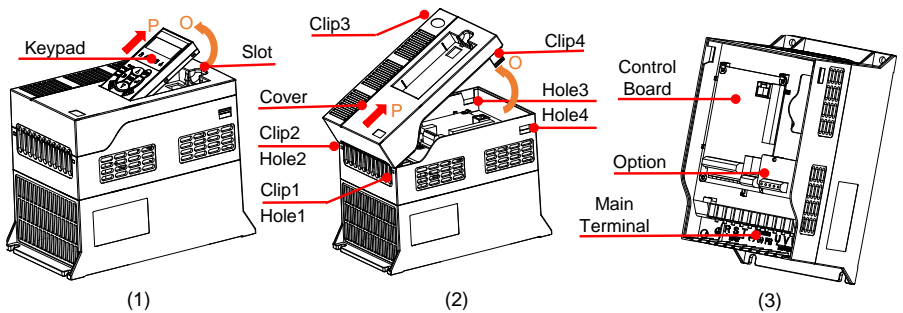

Fig.3-3a NE300 3P 400V 1.5~11kW(GB)/2.2~15kW(PB)
- There are 2 type plastic enclosure drivers, see Fig.3-3a/b
- Dismantled/mounted keypad: Push out keypad like Fig.3-3a(1), then take off it along the 'P' direction. Mount it along the opposite direction.
- Wiring preparation (Fig.3-3a): Loosen the clip 3/4, then open along the 'O' direction, take off along the 'P' direction. Take off along the opposite